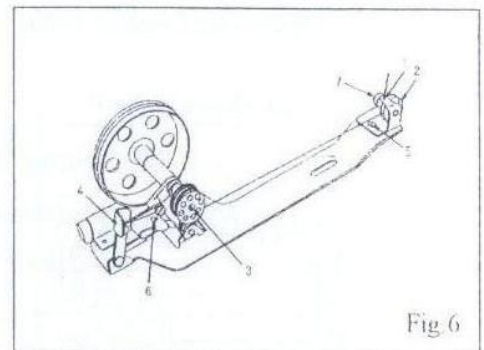

Fig 6
5. WINDING (Fig.6)
6. WINDING ADJUSTMENT (Fig.6)